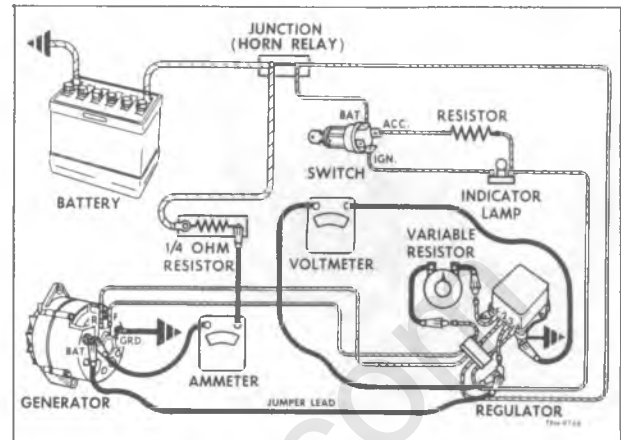
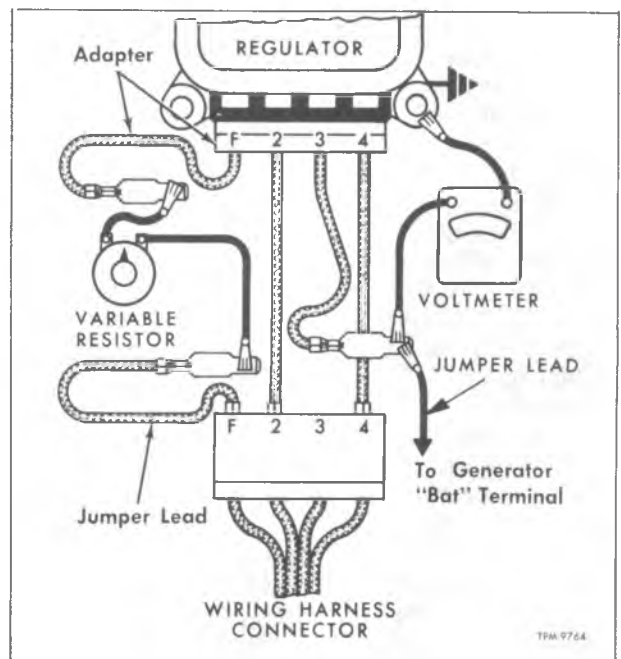

Figure 11—Connections for Testing Regulator Voltage Setting (Two-Unit Type Regulator)
Figure 12—Testing Voltage Setting (Two-Unit Type Regulator)
1. Refer to figure 11 which shows all test equipment connected into system. Figure 12 shows use of special adapter and jumper lead at regulator.
2. Connect an ammeter and a ¼-ohm resistor with a rating of 25 watts or more in series in the circuit at the "BAT" terminal on the generator (fig. 11). In the event the battery is discharged, the ¼-ohm resistor will limit the generator output to 10 amperes or less which is required, when checking and adjusting the voltage setting.
3. Install special adapter as shown in figure 11. Use a 25 ohm 25 watt variable resistor in series with the generator field windings at the reg-